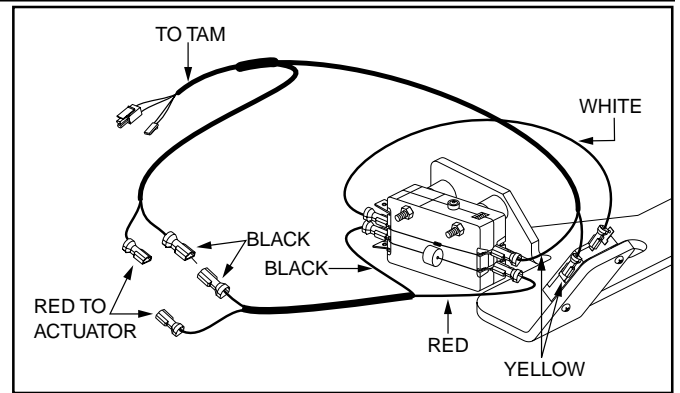

Figure 4.68. Dynamic Switch Harness Connections
If the readings recorded on the multimeter are not within tolerance, fully tilt the seat back. Connect the multimeter across the limit switch with the roller with the red lead to the white wire, and the black lead to the yellow wire. See figure 4.68. Manually operate the limit switch, verifying that the multimeter indicates less than one ohm resistance when the limit switch is activated and “open” when it is not activated.
3. Connect a multimeter set to measure resistance across the switch with the resistor, using the red lead to the white wire, and the black lead to the yellow wire. See figure 4.68. Manually operate the limit switch, verifying that the multimeter indicates a short when the switch is activated and 10K ohms when the switch is not activated.